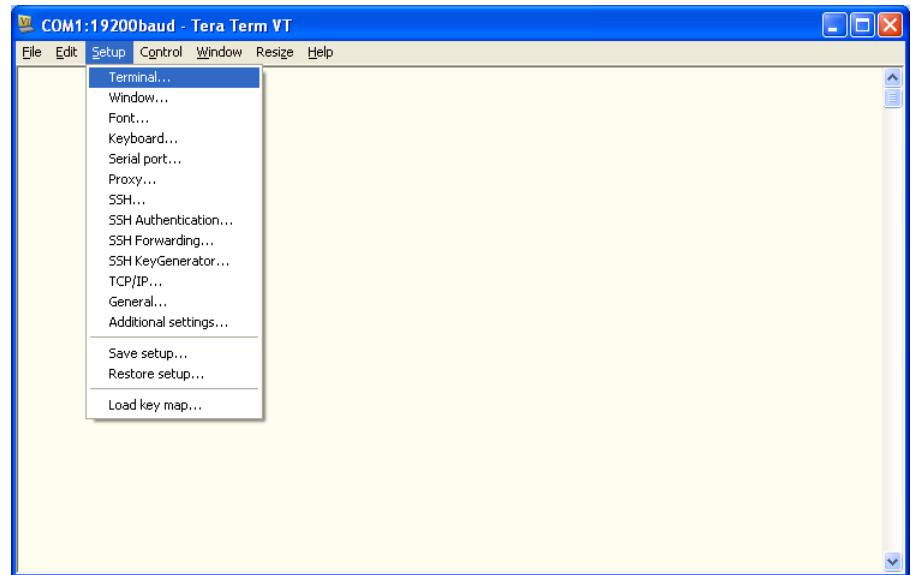

Figure 6-27: Selecting the Terminal Setup
21. Select **Setup**, then click **Terminal** (Figure 6-27).